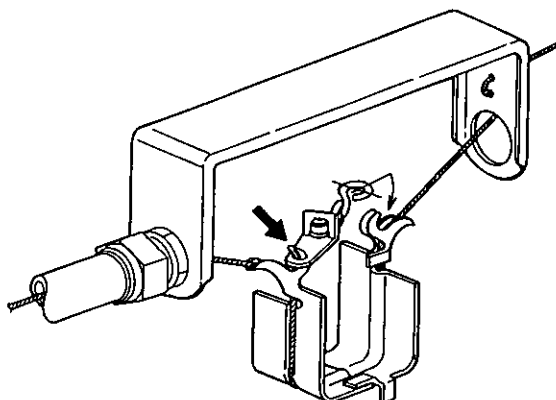

FIGURE 25
11. After fitting the pivot point of the two detector linkage halves together, squeeze the two halves and place the correctly rated Ansul approved fusible link over both detector hooks. See Figure 25.